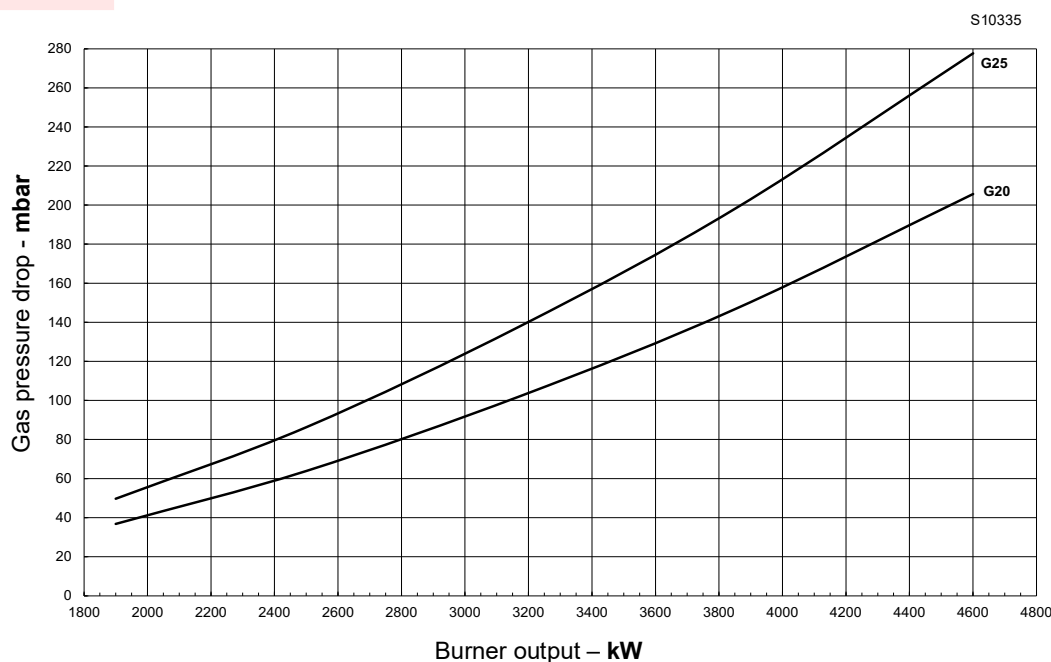
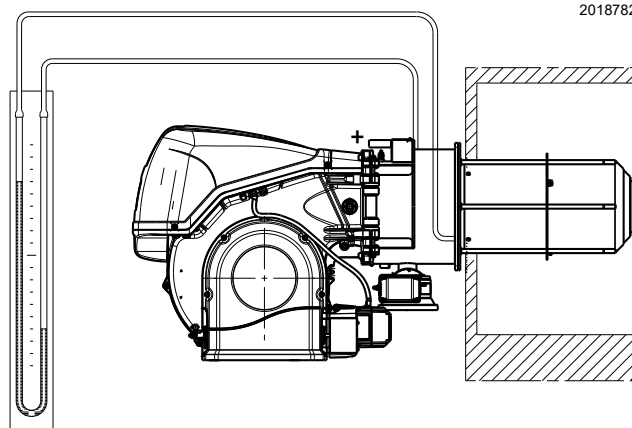

Fig. 21
Fig. 24
- Enter the mbar scale (Fig. 21) and read the corresponding output by reading on the dashed line.
- Read the pressure at the test point P1)(Fig. 21).
Pressure required at test point P1)(Fig. 21).
- Fit a U-type pressure gauge or a differential pressure gauge (Fig. 24), with socket (+) on the gas pressure of the pipe coupling and (-) in the combustion chamber. The manometer readings are used to calculate MAX burner output using Fig. 20 and Fig. 21 on page 25.
The arrival of gas at the pipe coupling is indicated by the U-type pressure gauge (Fig. 24 on page 29).